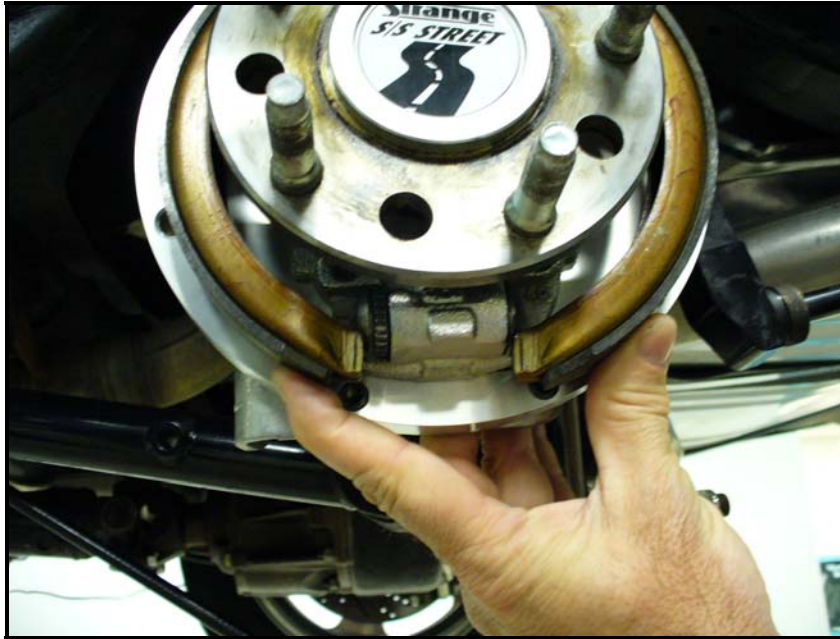

Figure 2: Slip the park brake shoe over the actuator.
6. Install the parking brake shoe over the axle flange. Once over the flange, slip the shoe onto the actuator from the bottom up. Figure 2 shows the installation of the parking brake shoe for the Pro+ and Ext+ Systems.